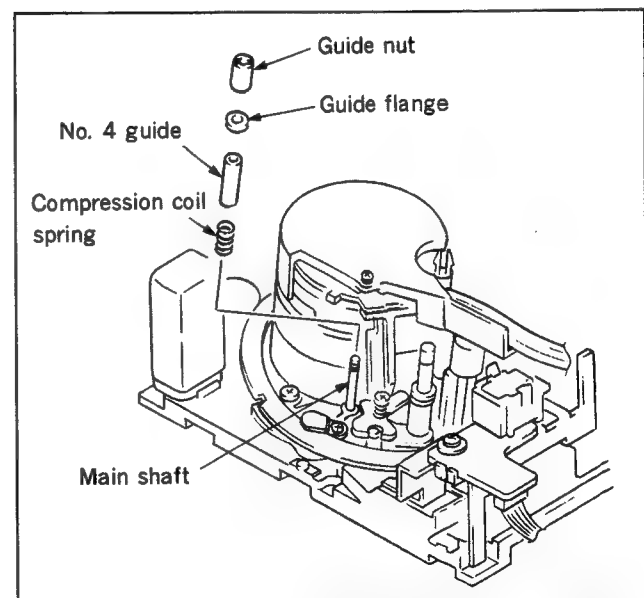

Fig. 4-10-2 Individual parts removal of No. 4 guide
2. **Removing the component parts of No. 4 guide (Fig. 4-10-2)**